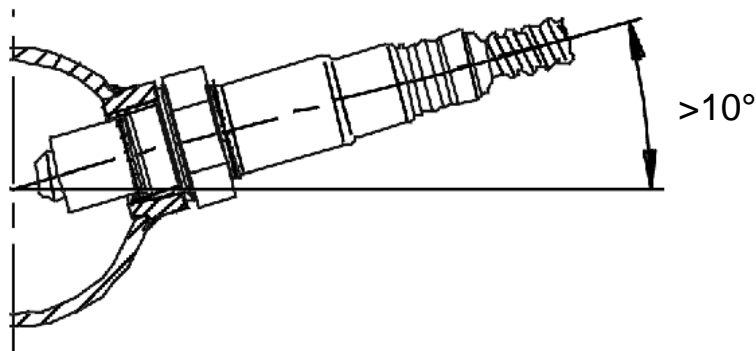

Figure 2. Minimum mounting angle for the UEGO Sensor
4. Mount the sensor as shown in figure 2.
A weld-in M18 X 1.5 boss is supplied for sensor installation. Mount the O2 sensor in the exhaust system at least 18 inches downstream from the exhaust port. If you anticipate high EGT's (over 800C), run a turbocharger, run at high RPM for extended periods of time or plan on running leaded race fuel then you must mount the sensor at least 36 inches or more downstream of the exhaust port as all of these can cause the sensor to overheat. **On turbocharged engines the UEGO sensor must be installed after the turbo charger, if not, the pressure differential will greatly affect the accuracy of the unit.** For accurate readings, the sensor must be mounted before catalytic converters and/or auxiliary air pumps. To prevent collection of liquids between the sensor housing and sensor element during the cold start phase, the installation angle should be inclined at least 10° from horizontal with the electrical connection upwards, see below. (Figure 2)